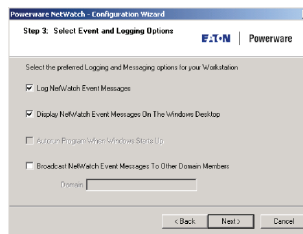

Figure 21. Select Event and Logging Options
11. The Event and Logging Options dialog opens (see Figure 21). Select **Next**.